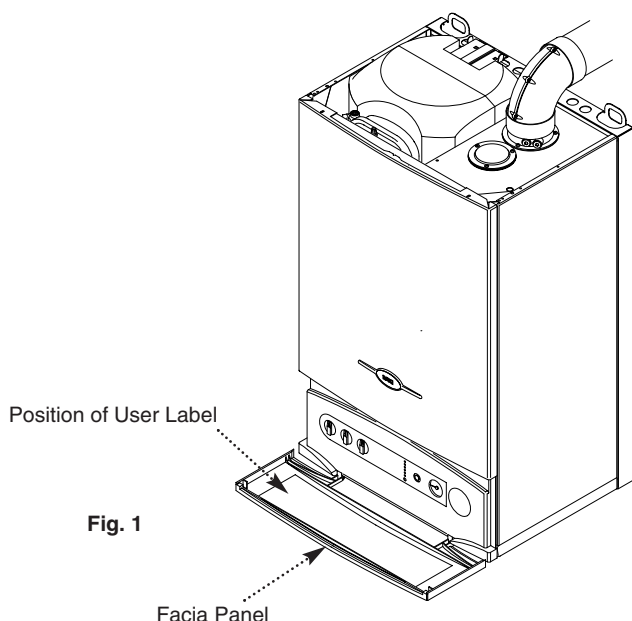

Fig. 1
6. A label giving details of the model, serial number and Gas Council number is situated on the rear of the facia panel (Fig. 1).